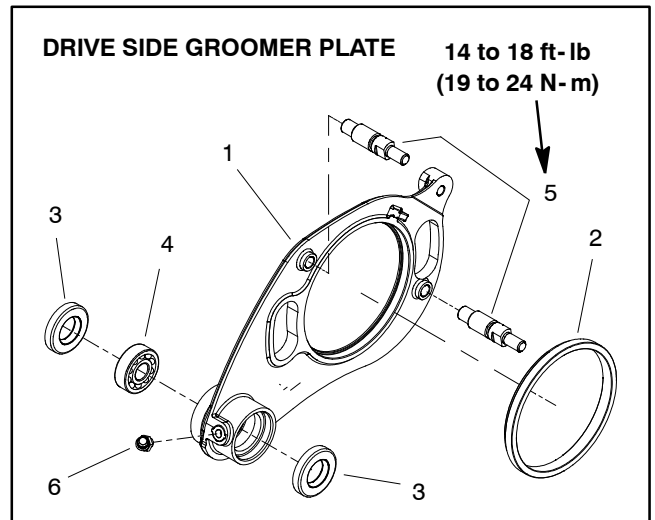

Figure 9
1. If seals, bearings or bushing was removed from either of the groomer plates, install new components noting proper orientation as shown in Figures 9, 10 and 11.